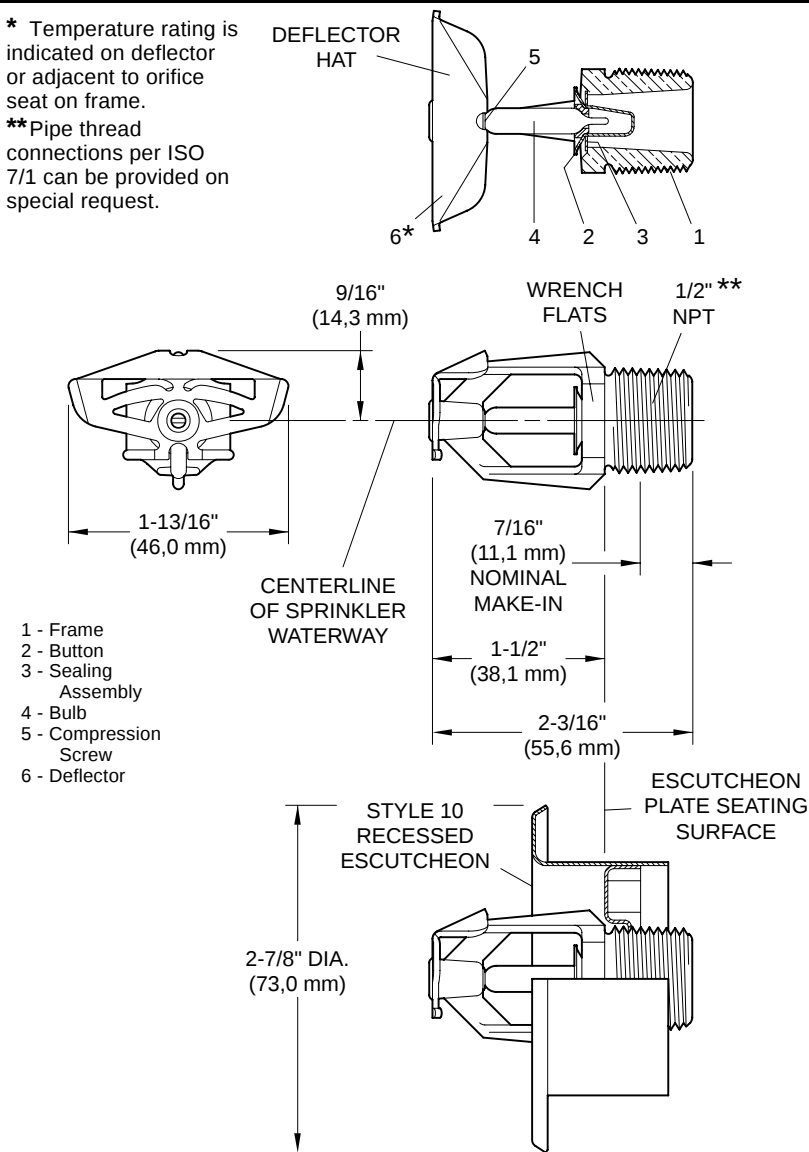

FIGURE 1
Step 3. Tighten the sprinkler into the sprinkler fitting using only the W-Type 6 Sprinkler Wrench (Ref. Figure 4), except that an 8 or 10 inch adjustable Crescent wrench is to be used for wax coated sprinklers. With reference to Figure 1 or 2, the W-Type 6 Sprinkler Wrench or the Crescent wrench, as applicable, is to be applied to the wrench flats.
Step C. Tighten the sprinkler into the sprinkler fitting using only the W-Type 7 Recessed Sprinkler Wrench (Ref. Figure 5). With reference to Figure 1, the W-Type 7 Recessed Sprinkler Wrench is to be applied to the sprinkler wrench flats.